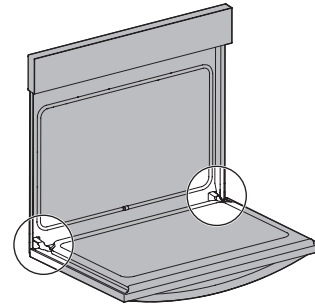

Figure 22: Door hinge location
1. Open oven door completely, horizontal with floor (Figure 22).
3. Fully open the oven door, horizontal with floor (Figure 22).